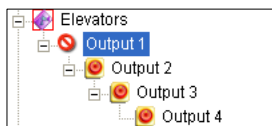
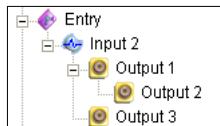
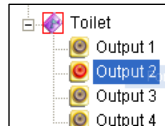

Figure 4-57
Figure 4-58
Figure 4-59
- In the Advanced I/O List, considering cascade triggers, you can only manually force the output at the top level, e.g. Figure 4-57. Other outputs at sub levels cannot be forced manually, e.g. Figure 4-58. However, if the output is not in a cascading hierarchy, you can definitely force it manually, e.g. Figure 4-59.